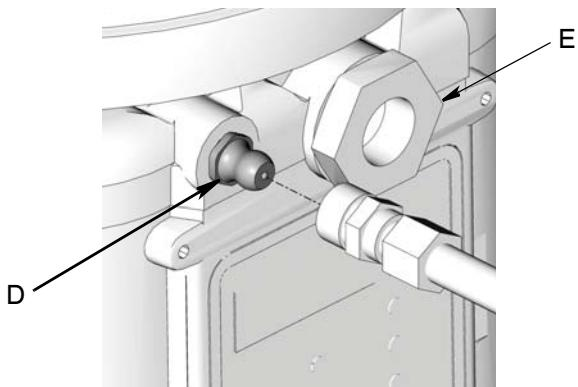

FIG. 14
1. Connect fill hose to inlet fitting (FIG. 14).